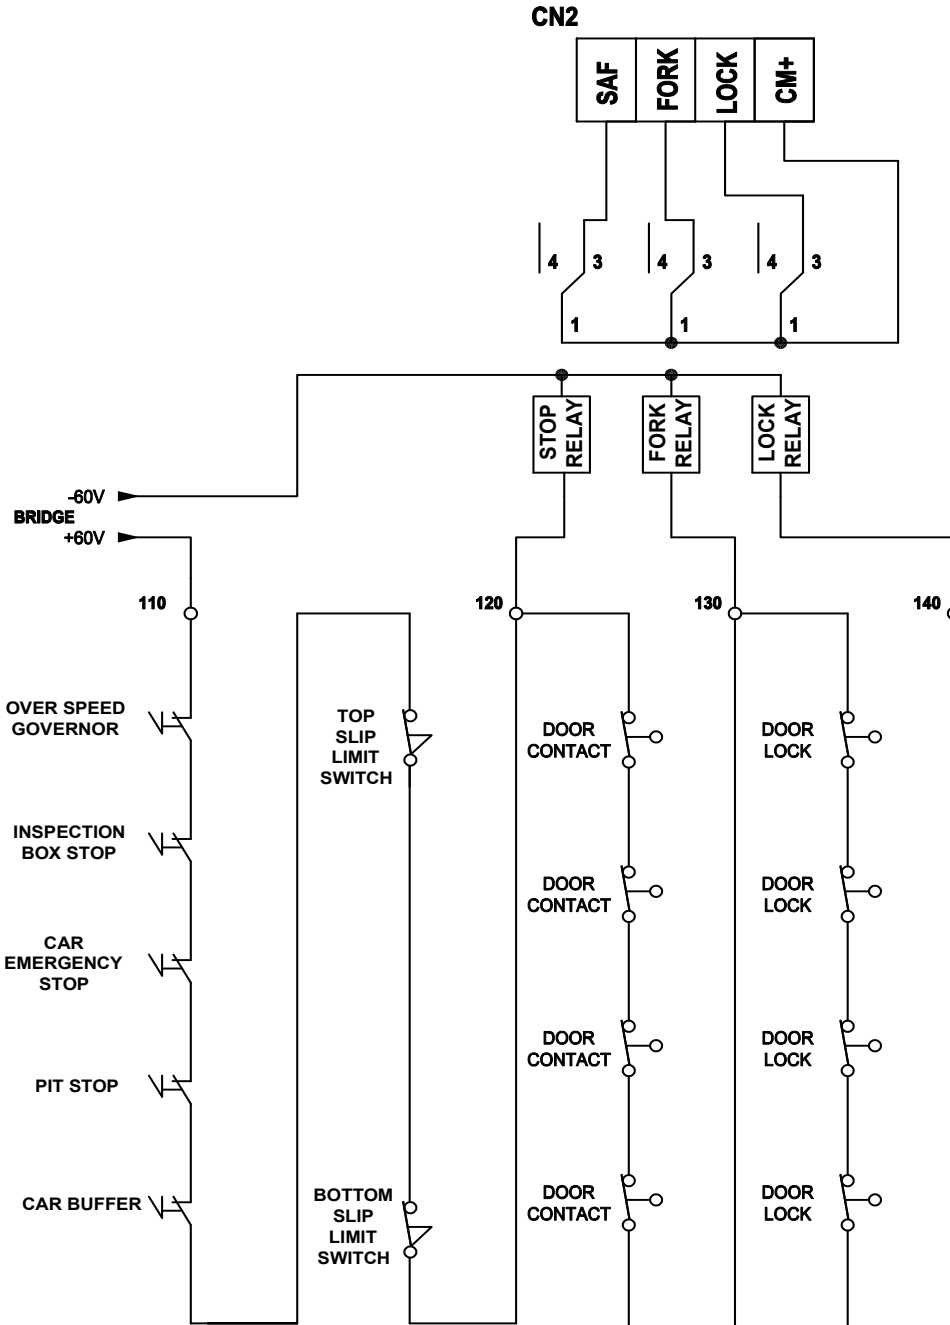

Figure 17.0 - Safety Circuit Connections
The terminals of the Safety Circuits are connected as illustrated in Figure 17.0.
- Figure 17.0 represents a guide for connecting Safety Circuits to the shaft terminals (CN2) on the XC-12 series board.
- The Safety Circuits are operated with 60V DC using an external relay as illustrated in Figure 17.0.
- Figure 17.0 represents the condition when all safety circuits are closed, where the car can operate normally.